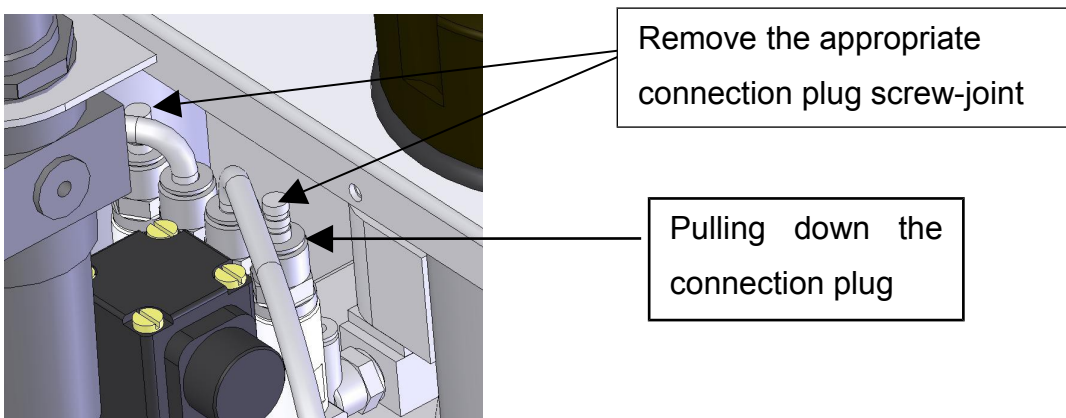

Fig. 7
- On the back remove the connection plug on the air current unit, there also by pressing down the ring of the plug screw-joint and at the same time pulling on the connection plug. Tip: try pressing the ring down with the assistance of a slotted screwdriver. **Figure 7**